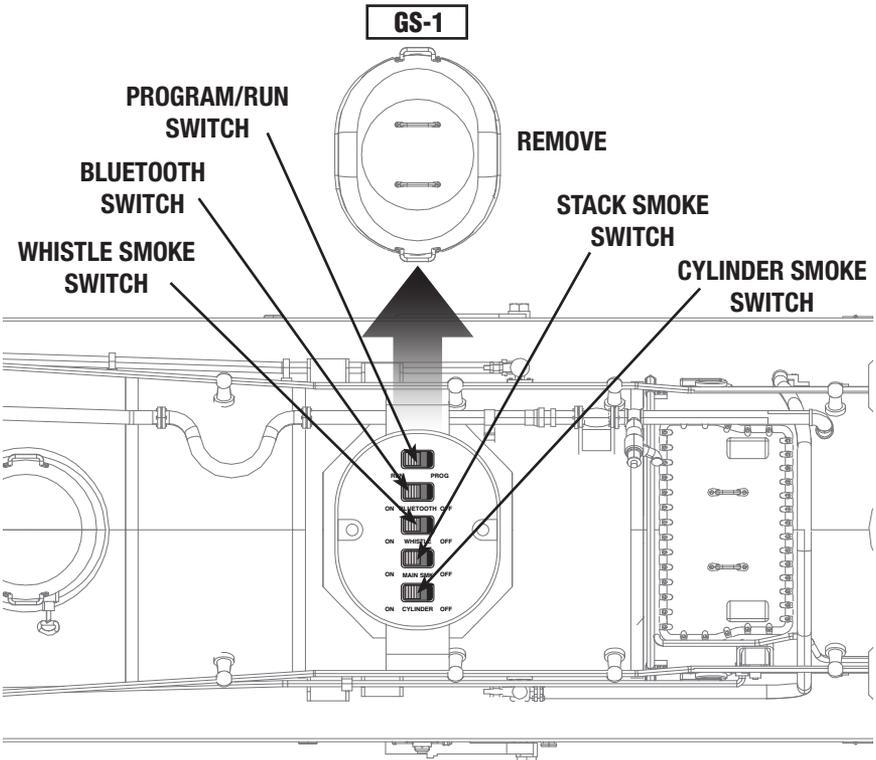

Figure 4a. GS-1 locomotive switch locations
The functions of your VISION GS switches are outlined below. Refer to Figures 4a and 4b for the location of the switches. **The instructions below are specific to this particular locomotive; note that available features (and switches) may differ from other locomotives and sets.**
Refer to the figures below and on page 11 as you add the smoke fluid. If you prefer to operate your Vision Steam Locomotive without smoke, locate the smoke unit switches under the sand dome on top of the boiler and slide them to the OFF position. Refer to Figures 4a and 4b on pages 8 and 9 for the locations of the switches.
- 1. Slide the program run switch on your locomotive to the PROG position. See Figures 4a and 4b on pages 8 and 9.**
The Dynamo steam feature simulates generating electricity from steam to power the headlights and lighting in the locomotive. The effect is located on top of the boiler, with 3 different Dynamo details sharing the same smoke funnel and smoke unit. To load the smoke unit with smoke fluid, follow the instructions on page 11. The Dynamo steam effect only works when the engine's Dynamo smoke unit is turned on. Make sure the switch is in the ON position (see figures 4a and 4b on pages 8 and 9) and then turn the smoke on using a CAB-1 or CAB-2 remote. If the smoke is turned off the smoke will not activate.